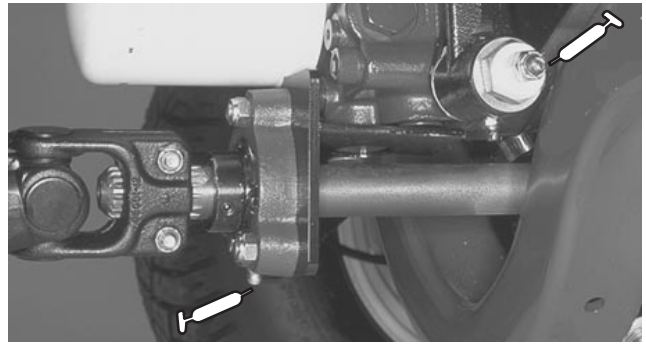

Figure 44
Drive shaft support bearing (1), Rear axle drive shaft (3) (Fig. 44); Brake pedal (1) (Fig. 45); Lift cylinders (5) (Fig. 46) and Fan shaft (Fig. 47).